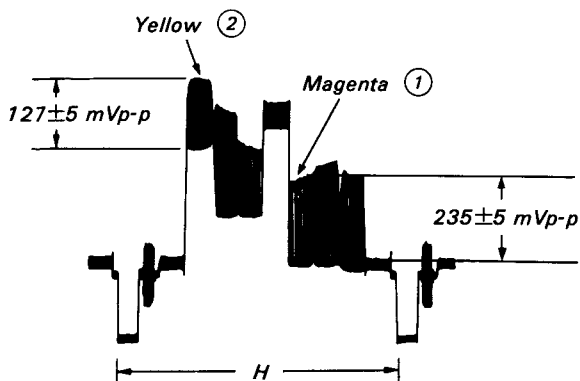

Fig. 7-42.
- 2) By turning RV720 on ME-4 board, adjust for a "Magenta" amplitude at 235 ± 5 mVp-p. (Fig. 7-42 ①)
- 3) By turning RV721 on ME-4 board, adjust for a "Yellow" amplitude at 127 ± 5 mVp-p. (Fig. 7-42 ②)